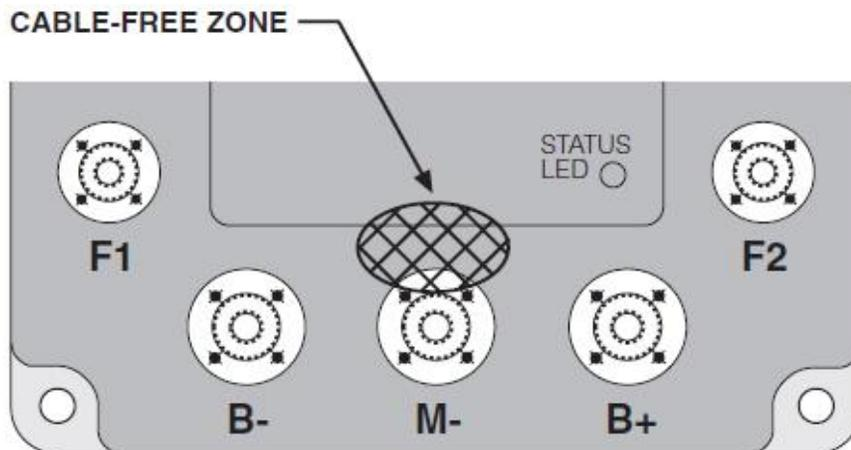

**Figure 14**
9. Use a wire cutter to remove the two female spade terminals coming from the motor field posts (**Figure 14**).
10. Remove 10mm (3/8") of insulation from both wires using a wire stripper. Using a crimping tool, crimp the two ring terminals provided on to the wires coming from the motor field posts (**Figure 14**).